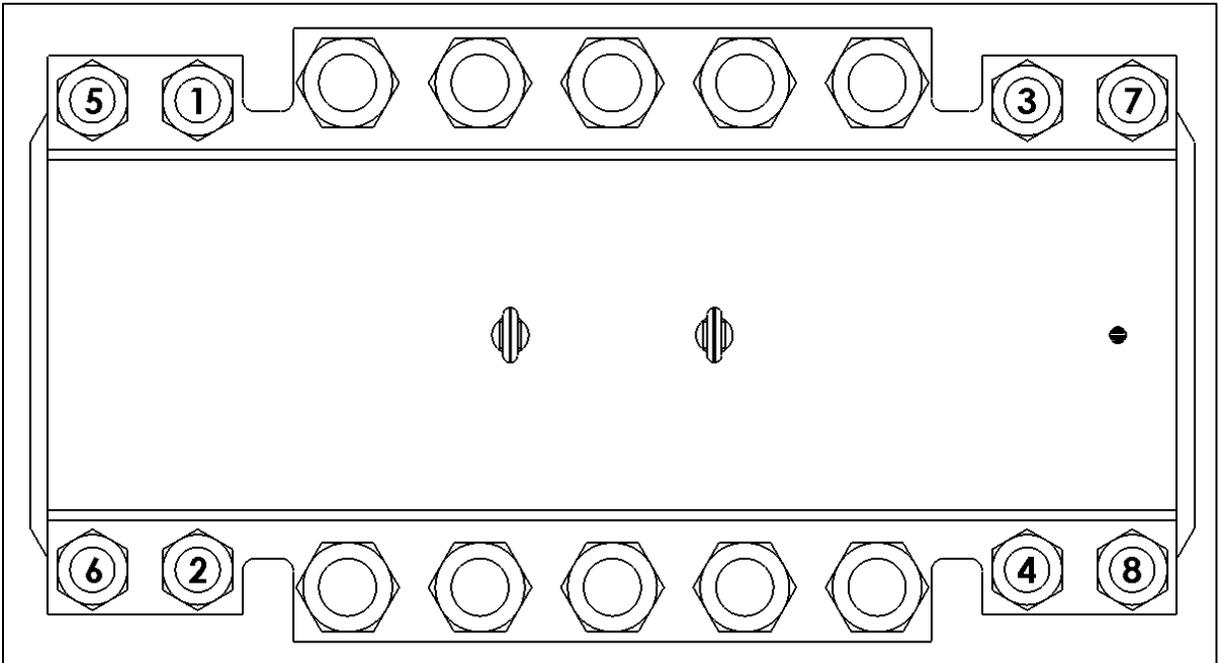

Figure 6
7. Torque the studs and nuts of the clamping sections uniformly, as indicated by the **Torque Values for Clamping Section** in the *PLIDCO Torque Chart for Clamp+Sleeve* located on the last page. Note that the sidebars in the sealing section are gapped approximately 1/8 inch (3.2 mm) or less when the PLIDCO Clamp+Sleeve is fully tightened. The gap between the side bars in the clamping section is typically greater than the sealing section and is dependent on pipe size. The sequence for torquing the studs and nuts will be similar to the numerical pattern of Figure 6, and will be executed repeatedly as follows: